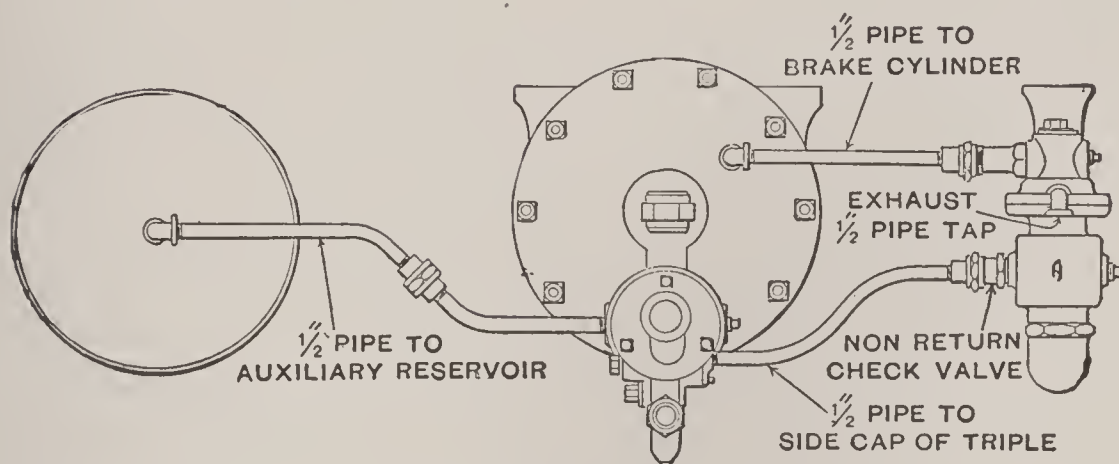

Fig. 35.
the brake cylinder and the triple valve as shown in the piping diagram (Fig. 35). With the style "A"
**Operation.** When style "A" compensating valve is piped as shown in Fig. 35, and an emergency application is made, a portion of the brake pipe air is vented at the side cap of the quick action triple valve and passes through the pipe leading to the non-return check valve and spring box chamber, charging the spring box chamber under the piston with air pressure. This pressure re-enforces the regulating spring pressure under the piston, and permits the full equalization from the auxiliary reservoir to be had and retained for several seconds before piston HS 77 can descend and open the relief ports. The air vented